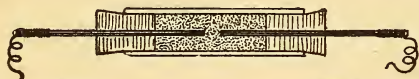

FIG. 23
in which iron or other metallic filings are enclosed. Corks are placed in both ends of the tube, and through these corks the ends of wire are passed, so that they occupy the position shown in Fig. 23, the ends being separated a quarter of an inch. Metal filings will not conduct an electric current the same as a solid rod or bar of the same metal, but resist the passage of current.
telegraphic key, or switch, which makes and breaks the current; S B is the storage-batteries, or source of electric energy; and S G the spark-gap between the brass balls on the terminal rods. By closing the circuit at K the current flows through the primary of the induction-coil, affects the secondary coil, and causes a spark to leap across the gap between the brass balls. This instantly sets the ether in motion from A on the right, and the impulse is picked up by A on the left. This oscillation breaks down the resistance of the filings at C, and the current from battery, or dry cell (D C), flows through the filings and operates the sounder, or relay (R). This operation takes place instantly, and the particles of metal are seen to cohere, or shift, so that better contact is established. But as soon as the spark has jumped across the gap the action of cohesion ceases until the key (K) is again operated to close the circuit and cause another spark to leap across the gap. The shifting of the metal particles on the board (C) is what takes place in the glass tube of the coherer, Fig. 23, but in this confined space the particles will not drop apart again as on the flat surface, but will continue to cohere. A de-coherer is necessary, therefore, to knock the particles apart, so that the next oscillatory impulse will have a strong and individual effect. There are several forms of de-coherers in use, but for the amateur telegrapher an electric-bell movement without the bell, or, in other words, a buzzer with a knocker on the armature, will answer every purpose. (See description of buzzer on page 64.) It must be properly mounted, so that on its back stroke, or rebound, the knocker will strike the glass tube and shake the particles of